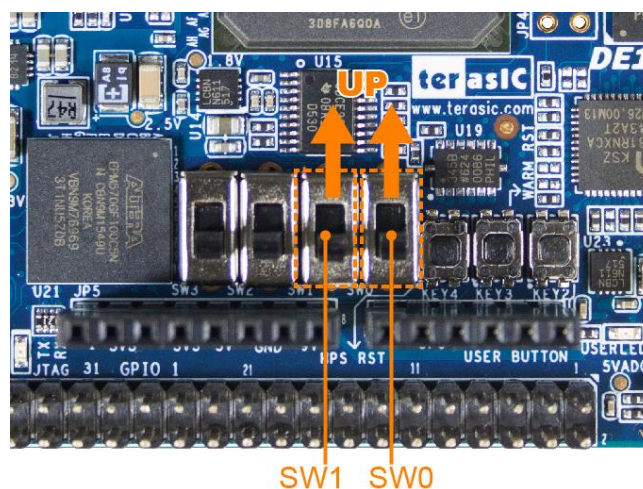

Figure 3-3 SW0 and SW1 on DE10-Nano board
**Figure 3-3** shows the SW0 and SW1 on the DE10-Nano board, **Table 3-1** describes the corresponding modes and functions when SW0 and SW1 are set to different positions.